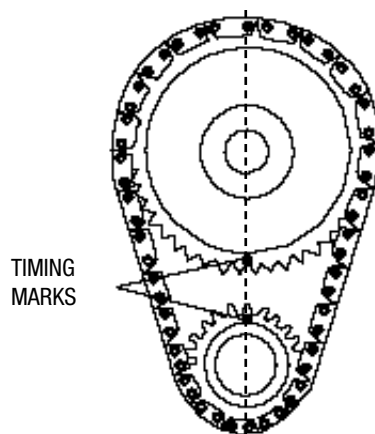

Figure 1—Timing Chain Sprocket Alignment
| 5. Remove the gas cap to relieve pressure. Disconnect fuel line and plug. Replace gas cap. | 16. Remove fuel pump and fuel pump push rod. Rotate engine until timing marks are aligned as in Figure 1. |
4. Install camshaft with timing marks lined up as recommended by factory specifications. See Figure 1.
PUSHROD AND ROCKER ARM INSTALLATION—After the cam is installed and timed correctly (see Figure 1), install push rods, lifters and rocker arms.